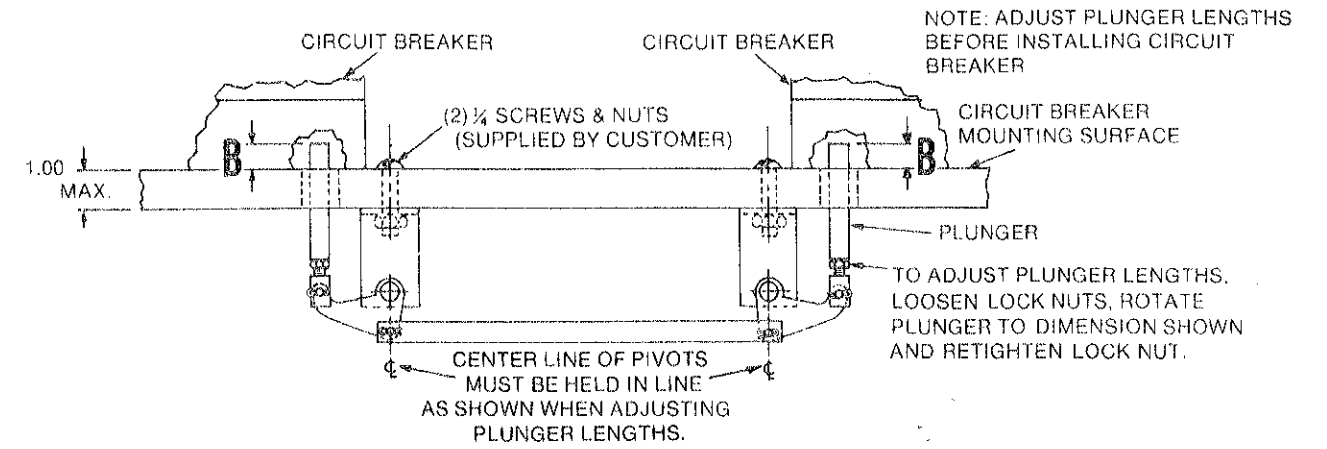

Figure 4. Mounting interlock 800, 1600 and 2000A, 3000 and 4000A frames
Mount and adjust as shown in Figure 4.
3. If readjustment of plungers is required, perform as outlined in Figure 4.